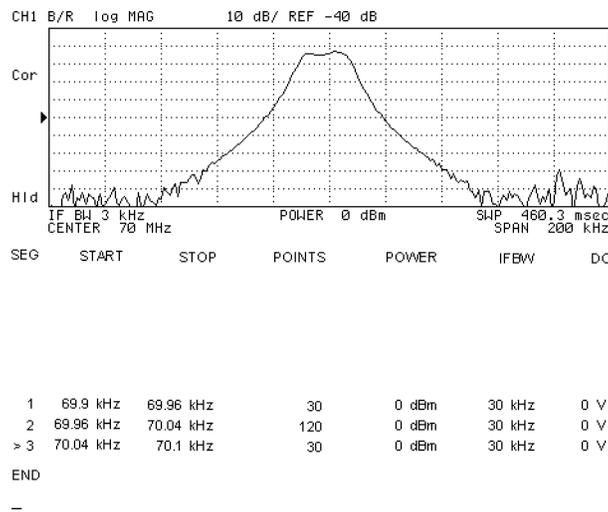
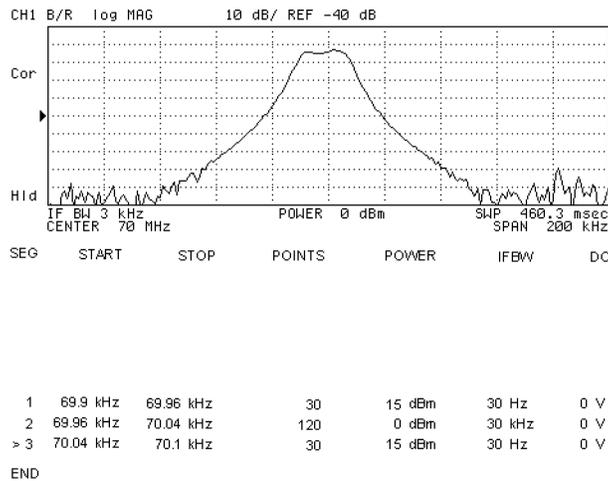

Figure 9-3. Sweep List Edit Display
Figure 9-5. Dynamic Range Enhancement
Figure 9-5 shows the sweep list modified from the list of the previous example(Figure 9-3) to improve dynamic range. Segments 1 and 3 have a narrow IF bandwidth and a higher power level for the stopband of the filter. Segment 2 has a wide IF bandwidth and lower power level for passband.
4. To modify segments 2 and 3, see Figure 9-5 for the values and modify them in a manner similar to steps 2 and 3.